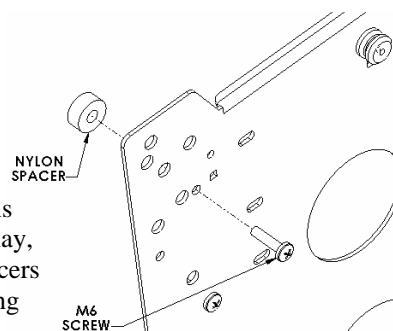
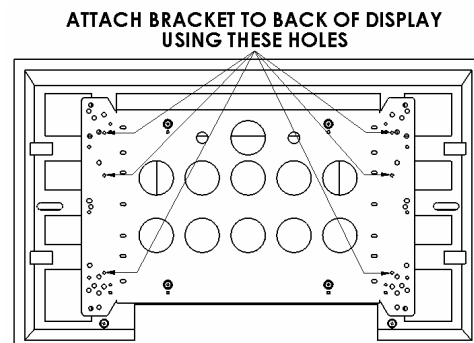

Figure 4
Figure 5
2. Place .375" Nylon spacers over mounting holes on back of screen. Attach mounting brackets to the display using the shorter M6 screws (see Figure 4 & Figure 5). If a media box or tuner is attached to back of screen, stack both .375" and 1.0" spacers and use longer M6 screws